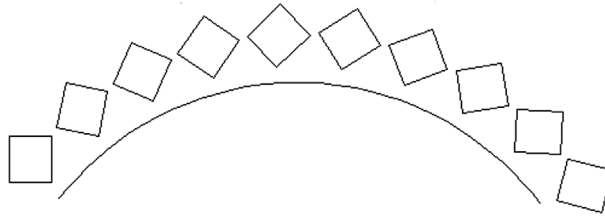

FIGURE 8.20 Path Array completed.
Step 5. You have essentially created the basic path array, but you can do a tremendous amount of modification to this basic layout. The easiest way to modify it is via the Ribbon. Under the Items: tab you have the most basic of the “mods,” such as total number of items and the distance between them. Also note how you can alter the path array via dynamic movement of the grips. Be sure to keep the array associative, as with the previous examples. The completed array is seen in Fig. 8.20.